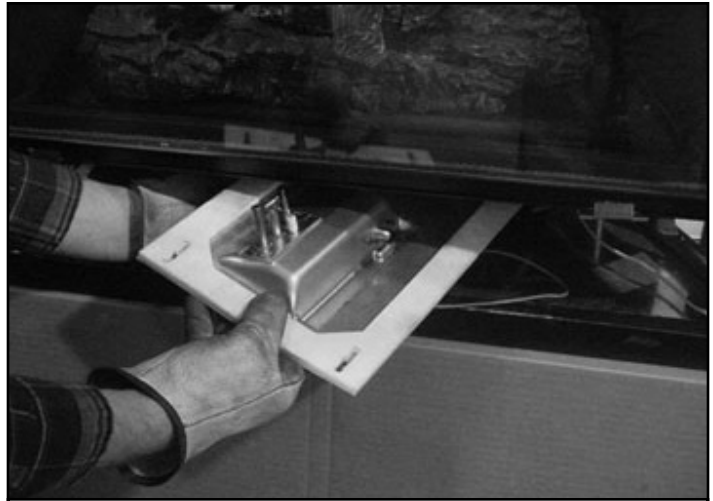

Figure 12.5 Valve Assembly
- Your air shutter is provided at 1/8 in. open for natural gas, 3/8 in. open for propane (30 in./33 in. appliances), and full open for 36 in. and 42 in. propane appliances. In the event soot is accumulating in your appliance, the air shutter should be opened farther. This can be done by opening the control access panel and locating the two wing studs and two wing nuts attaching the valve assembly to the firebox. Remove the wing nuts and wing studs, slide the valve assembly to the left and lower. Rotate the valve assembly horizontally and remove from underneath the appliance. See Figure 12.5.